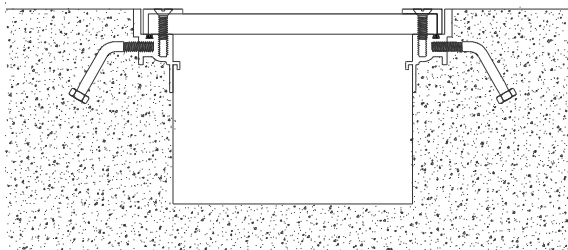

Figure 7
**STEP 13.** Using the fasteners (part no F1434S) provided by the factory, attach the cover plate to the frame (see Figure 7).